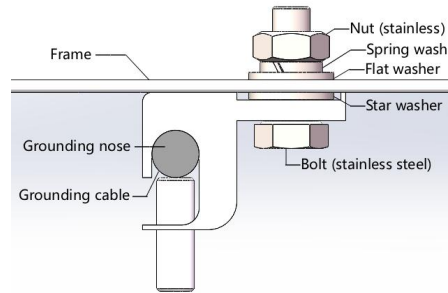

Figure 21 Schematic diagram for installation of connecting lug fastened by bolt
- Installation with connecting lug fitting bolts: Firstly, strip the grounding cable head for an appropriate length. Be careful not to damage the metal wire core during stripping. Insert the stripped grounding cable head into the socket of the connecting lug, then tighten the fastening screws, and connect the connecting lug to the aluminum frame with stainless steel bolts and connectors. The installation diagram is shown in Figure 21.